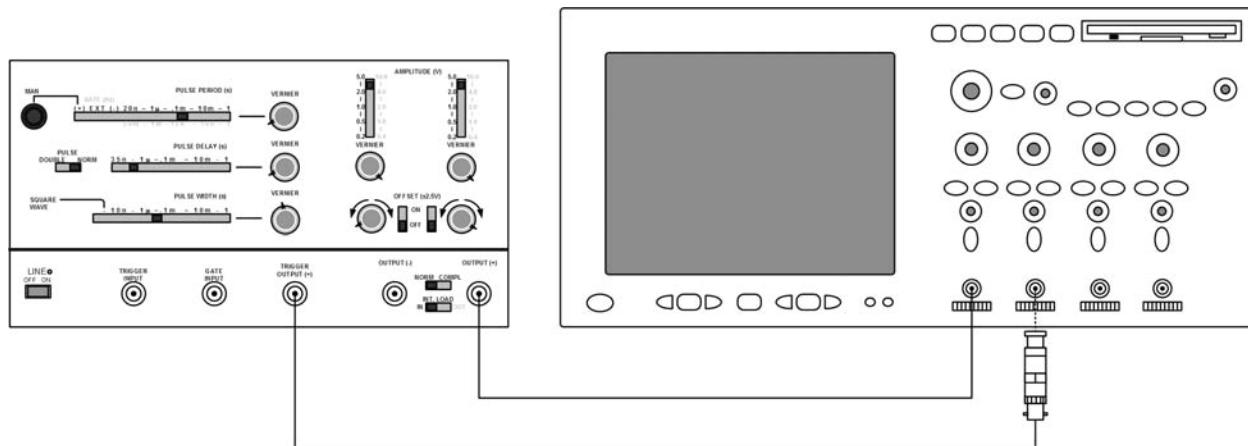

Figure 2. Pulse delay - equipment setup.
- (1) Connect equipment as shown in figure 2 and set oscilloscope to trigger off channel 2.
- Connect equipment as shown on figure 2.
(3) Adjust **PULSE WIDTH VERNIER** control fully cw. Measure pulse width, using standard measurement technique. If oscilloscope does not indicate a pulse width between 1.1 and 1.5  $\mu$ s, perform **b** below.
(4) Repeat technique of (2) and (3) above, using TI settings listed in table 5. Pulse width will be within limits specified.